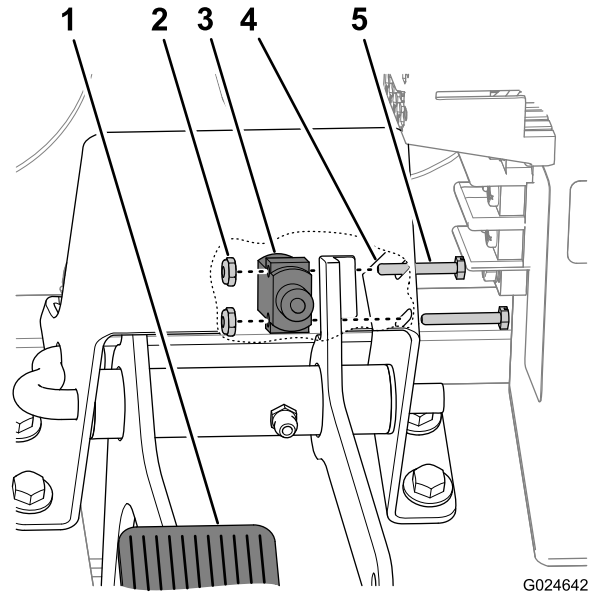

Figure 45
1. Align the interrupt switch to the inner face of the right flange of the accelerator-pedal bracket with the wire harness of the switch forward (Figure 45).
2. Align the mounting holes in the interrupter switch with the forward end of the slots in the accelerator-pedal bracket (Figure 45).